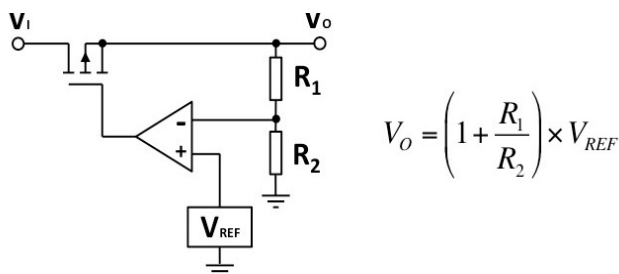

Figure 2. Simplified diagram of a linear series regulator
Greater sophistication in linear regulation is achieved with a series design that uses a pass transistor to regulate the load current and drop the input voltage to the required output level. This concept is shown in figure 2 and such designs are typical of integrated circuit (IC) regulators and also low drop-out (LDO) regulators, which often provide a regulated supply at the “point of load”.